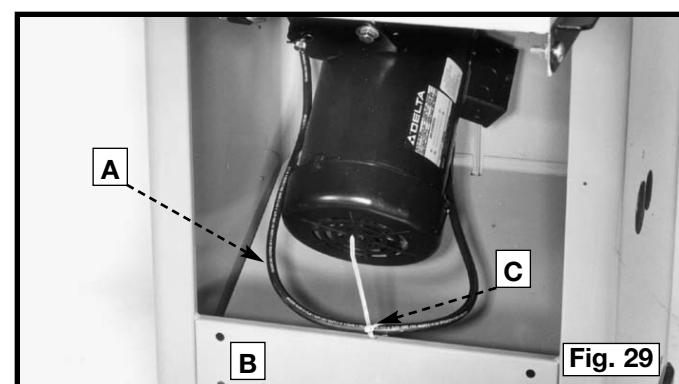

Fig. 29
2. Fasten motor cord (A) Fig. 29 to the saw frame cross member (B), using the cable tie (C) supplied with the saw.
3. After the cable tie is tightened, cut off the excess tail (C) Fig. 29.